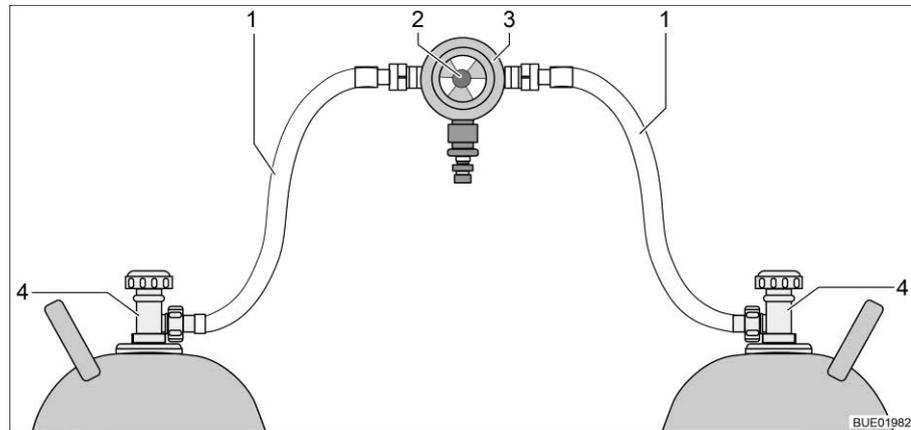
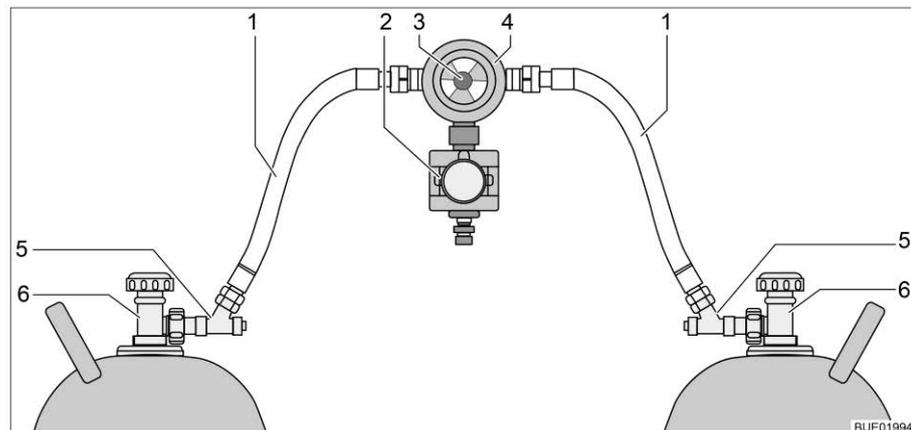

Fig. 172 Gas bottle switching facility
Fig. 173 Gas bottle switching facility with CPU
The gas bottle switching facility consists of a combined gas pressure regulator with reversing valve and indicator (Fig. 172,3). The gas bottle switching facility is installed between the two gas tubes (Fig. 172,1).
The gas bottle switching facility consists of a combined gas pressure regulator with reversing valve and indicator (Fig. 173,4), and an electrovalve (Fig. 173,2). The electrovalve blocks the gas supply to the vehicle in the event of a full braking, an accident, or an unusually great inclined position. The gas bottle switching facility is installed between the two gas tubes (Fig. 173,1) with hose break guards (Fig. 173,5).
Use the knob (Fig. 172,2 or Fig. 173,3) on the gas bottle switching facility to select which of the gas bottles is to be used as a primary bottle and which is to be used as a reserve bottle.
Only the electrical functions can be switched at the operating unit (Fig. 174). The regulator taps on the gas bottles (Fig. 172,4 or Fig. 173,6) must be opened and closed manually.
- Open the regulator taps of the gas bottles (Fig. 172,4 or Fig. 173,6).
- Press the hose break guards (Fig. 173,5) successively for 10 seconds.
- Use the knob (Fig. 172,2 or Fig. 173,3) on the switching facility to select the gas bottle which is to be the primary source of gas (primary bottle). Always turn the knob as far as it will go.
- Close the regulator taps of the gas bottles (Fig. 172,4 or Fig. 173,6).